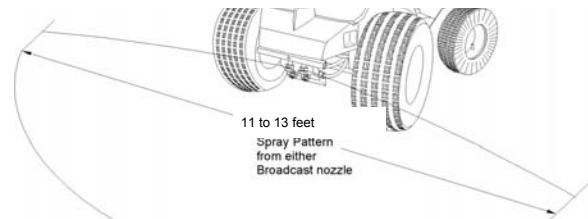

FIGURE 17, Broadcast spray pattern
With the 20 psi Pressure Unloader Valve installed at the factory, the sprayer has a 7-foot effective pattern width and an 11 feet (3.4 meters) overall pattern width using a single front mounted broadcast nozzle, as shown in FIGURE 17. The spray distribution pattern allows the use of a seven-foot (2.1 meter) overlap spreader travel pattern to achieve an even and complete coverage of the sprayed product on the entire turf area by overlapping the edge of the last spray pattern approximately 2 feet (.61 meter). Using a trim nozzle provides an even finished distribution over a spray pat-
- Spray for 15 seconds until the spray pattern is visible on the surface. The spray pattern should resemble the 11-13 feet spray pattern in FIGURE 17. Adjust as follows: